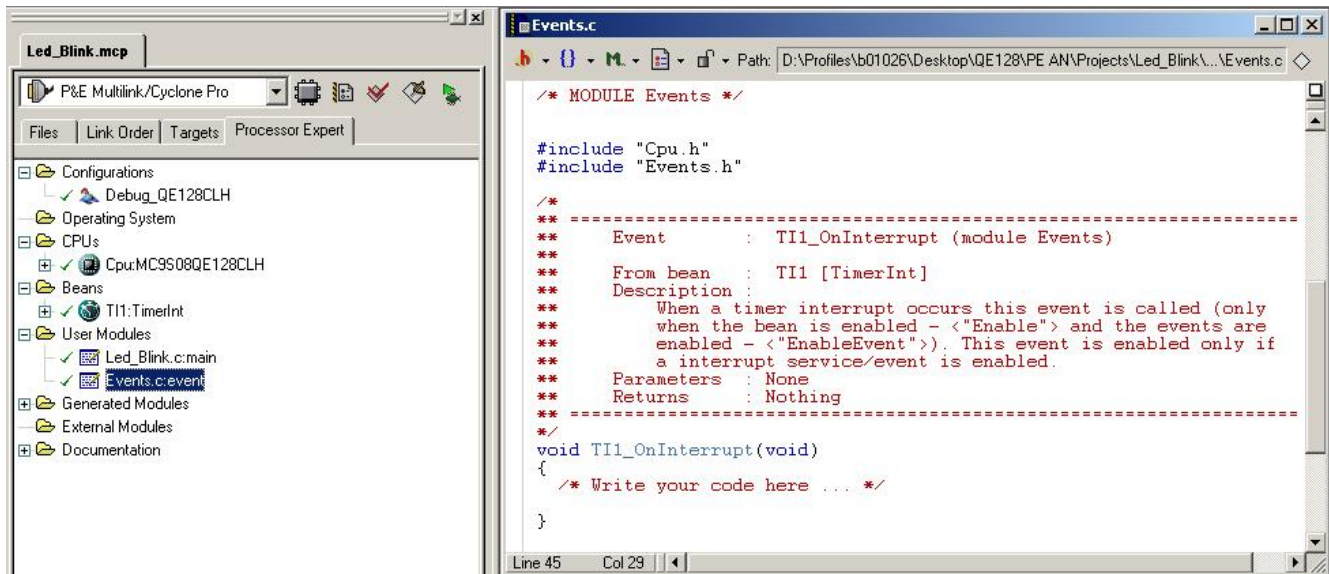

Figure 17. Events.c File for TimerInt Bean
6. Compile the project pressing the F7 key. Once an event is enabled, a file named Events.c is generated by the Processor Expert. This file contains all the events enabled for all the beans in the project. This file is under the User Modules folder in the left panel (Figure 17). The event OnInterrupt in the file Events.c is named TI1_OnInterrupt. The code to be executed must be placed inside the TI1_OnInterrupt function.
3. Once the TimerInt bean is inserted to the project, it appears on the left panel in the Processor Expert tab, in the Beans folder (Figure 17).